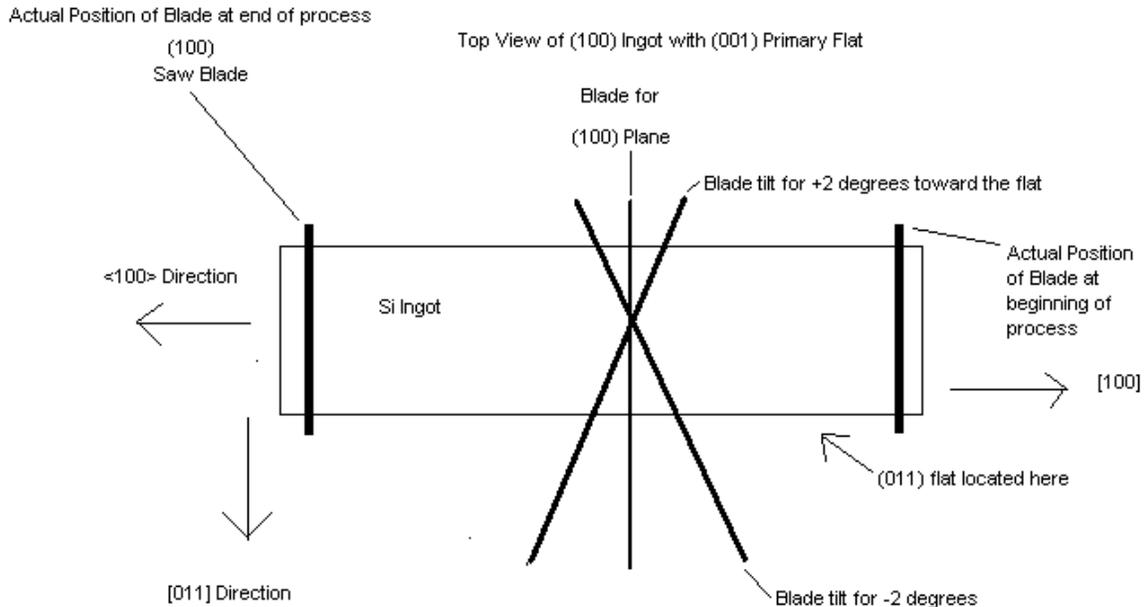

Figure 3 Position of Ingot and Saw-Blade During off-axis cutting of a (100) +2 degrees toward the <110> flat (not drawn to scale).
(100) orientation crystal is grown. After the flats have been properly ground onto the crystal ingot, the saw-operator mounts the ingot on a wafer slicing mounting beam. For this example the primary flat is at the (011). Flat orientation is verified and recorded using an XRAY diffraction Rocking Curve. Figure 3 is a top view showing the ingot and the orientation of the flat as well as wafer surface. The positioning of the saw-blade is also shown in Figure 3.
A set of silicon wafers were cut according to the above general procedure and then measured using the XRAY Diffractometer. The XRAY Rocking Curves for each slice are shown below (Figures 4-6). Note that the Orientation Slice is cut precisely to the (100) before the crystal is rotated and cut at either +.25 degrees and toward the flat, or -.25 degrees and away from the flat (as described in Figure 3).